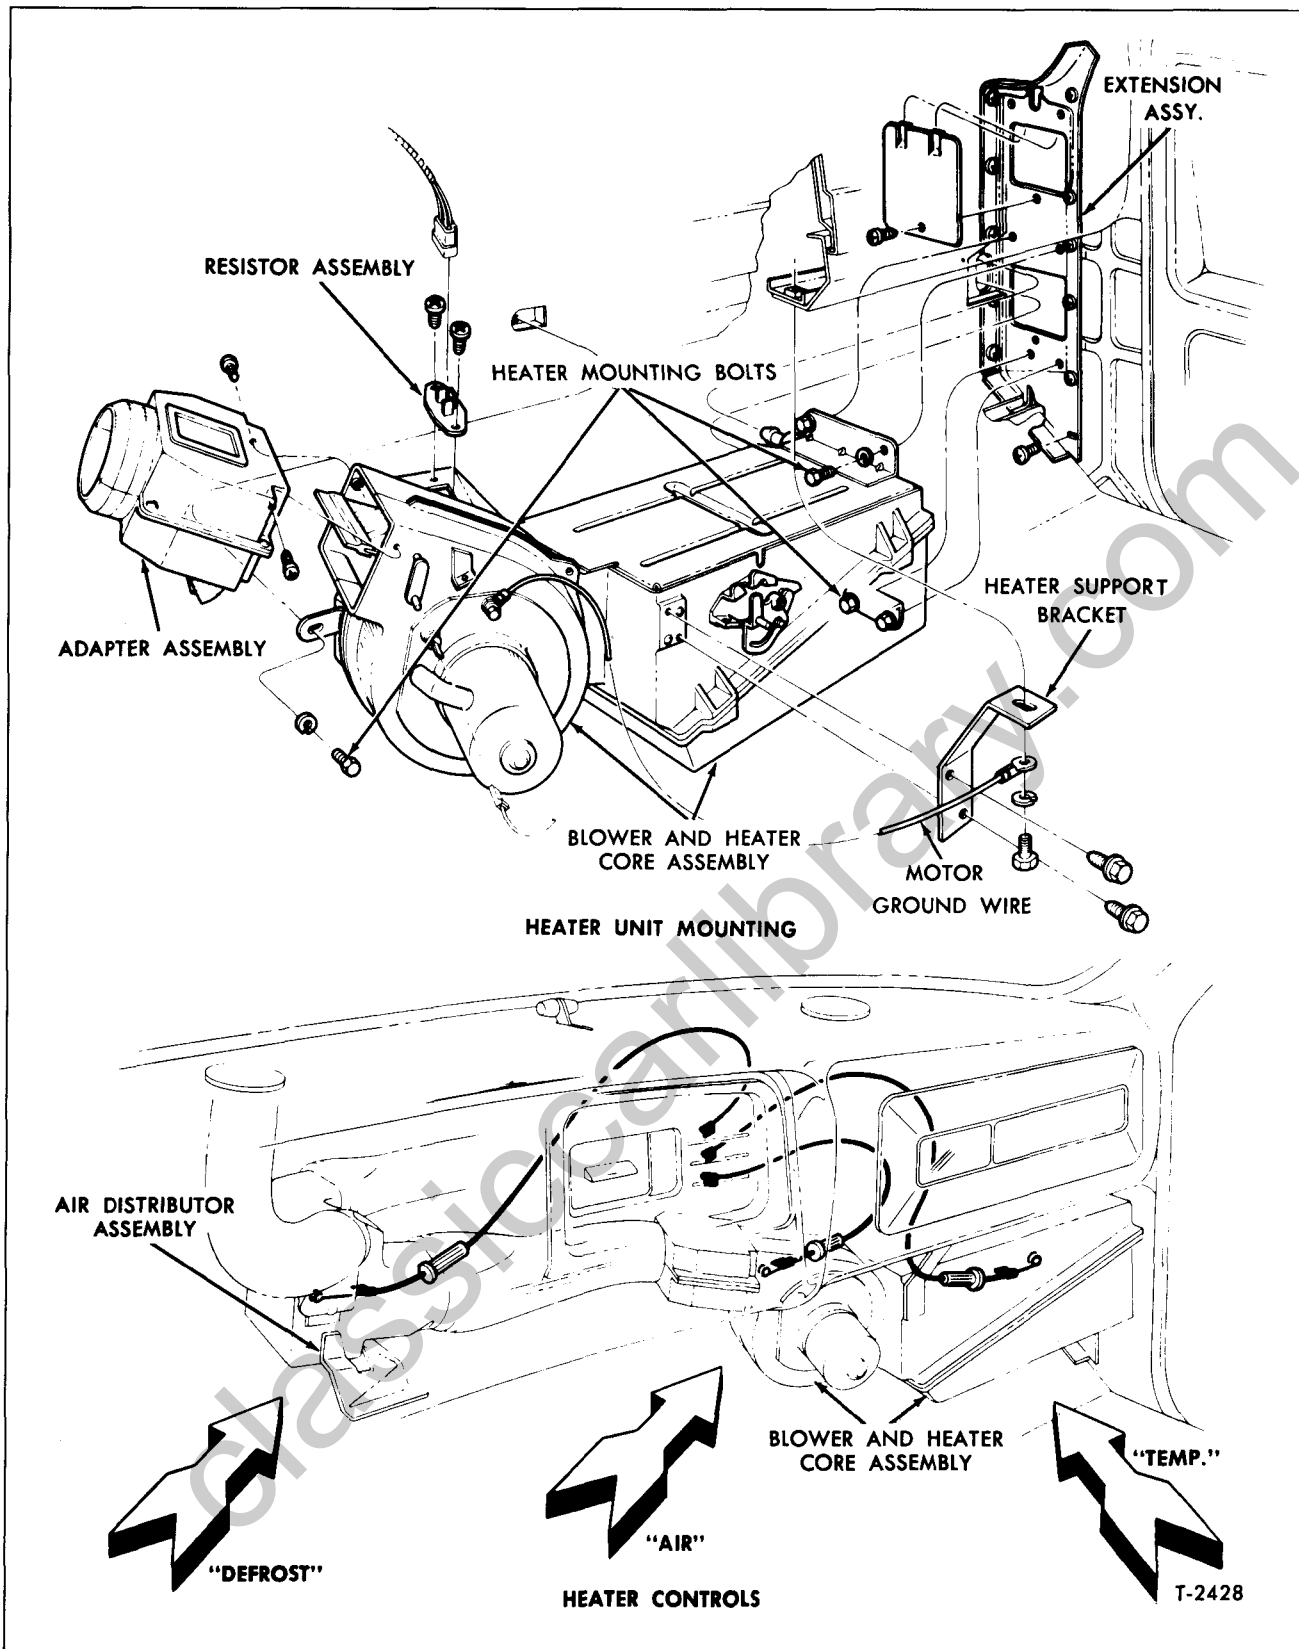

Figure 30—Air Flow Heater
The air-flow type heater (fig. 30) is used on conventional cab models covered by this manual. All heater components are located within the cab, under the instrument panel.
(Refer to Figure 30)
5. Connect the "AIR" and "TEMP." controls to heater assembly. Lower view in figure 30 shows connections.